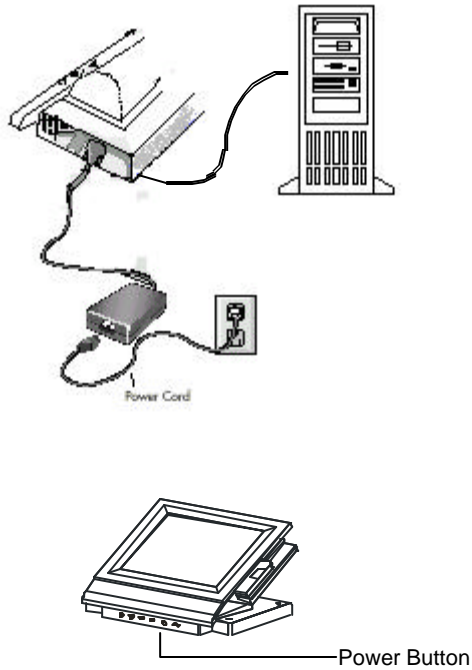

Figure 2.5B
4. Connect one end of the power cord to the AC Adapter and the other end to the power outlet (Figure 2.5B).
5. Turn on the power of the monitor (Figure 2.5B). and the computer.